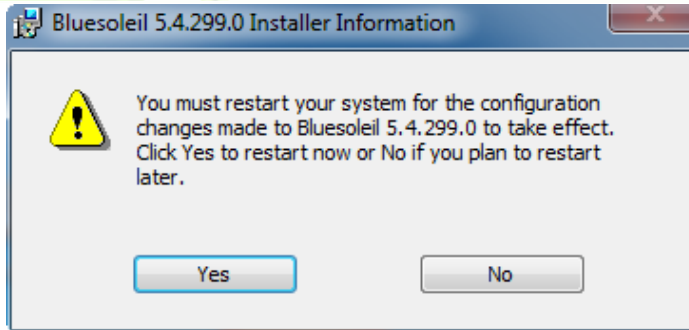

Figure 5-46: Reboot the Computer
Step 13: The user is then prompted to select to restart the computer now or later (**Figure 5-46**). For the settings to take effect, the computer must be restarted.